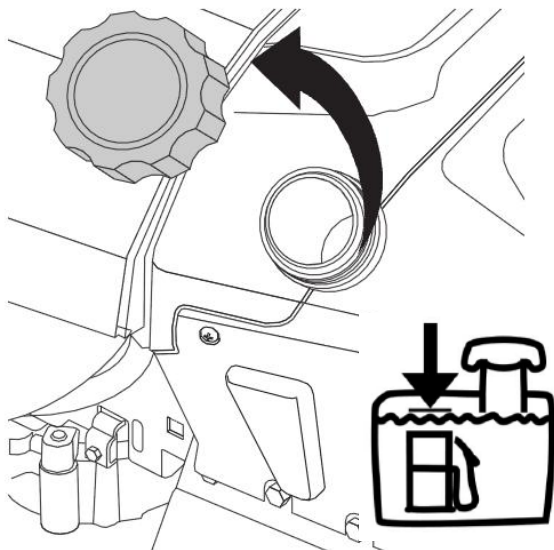

Fig.13
1. Remove the fuel cap (Fig.13)